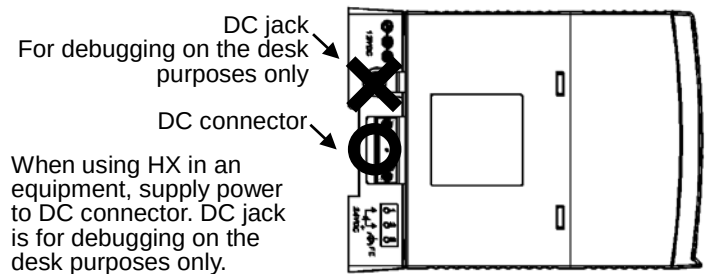

Figure 3 DC power input port
- When using HX in an equipment, supply power to DC connector shown in Figure 3. DC jack is for debugging on the desk purposes only.